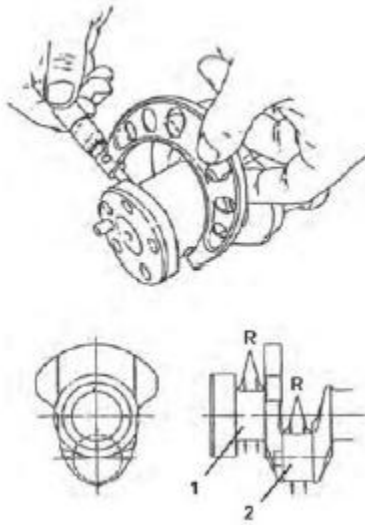

Figure 103.
4. Use a Magnaflux® to inspect the crankshaft for cracks. Replace the crankshaft if fractures are found. Measure the outside diameter of each crankpin (Figure 103, Item 2) and main bearing journal (Figure 103, Item 1). See the *Crankshaft Mechanical Specifications Chart*. Take measurements at several places around each bearing surface. If not within specification, grind the journals and install undersize bearings, or replace the crankshaft.
4. Check all the connecting rods (Figure 103, Item 6) and make sure that the connecting rods are in the same weight group.